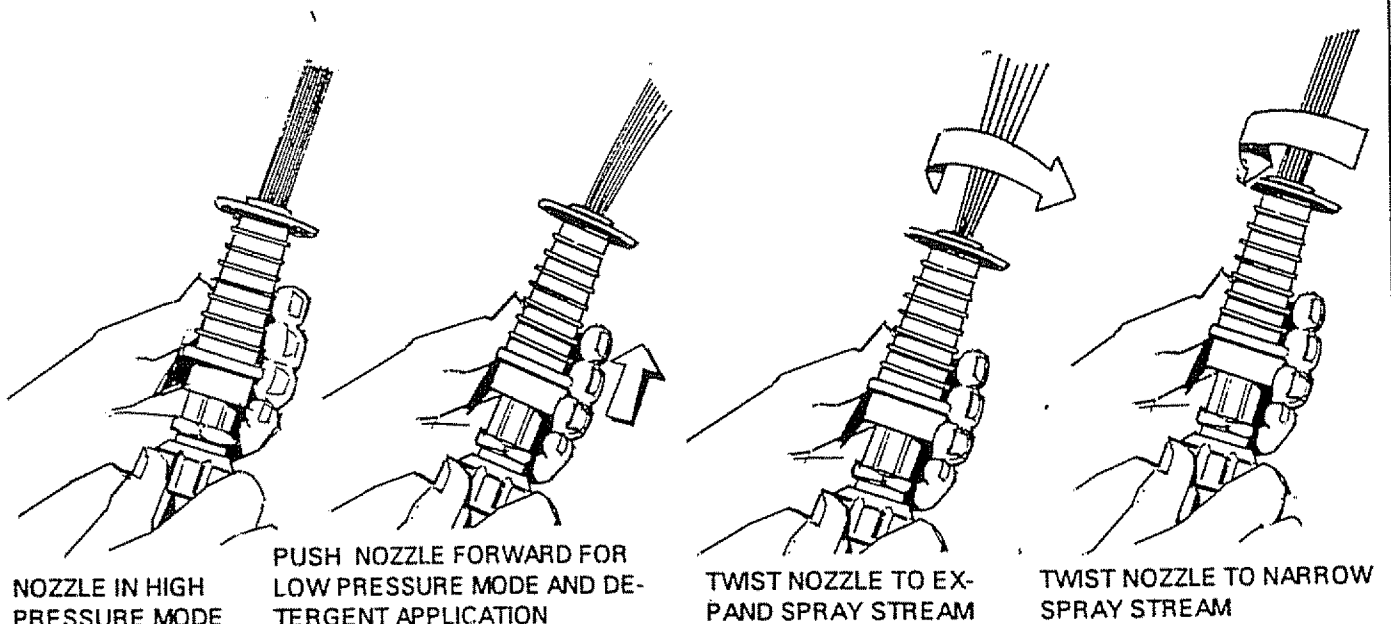

FIG. 15
- Slide the nozzle forward when you wish to adjust the spray to low pressure mode (Fig. 15). Slide the nozzle backward to achieve high pressure.
- Slide the adjustable nozzle forward (Fig. 15) to low pressure mode. Detergent cannot be applied with nozzle in high pressure position.